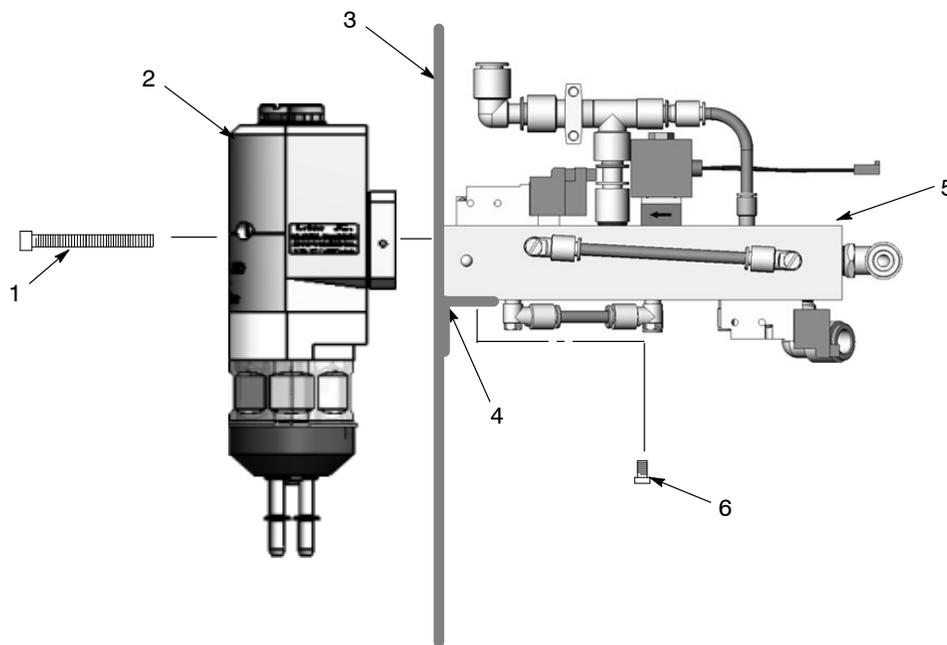

Figure 4-1 Pump and Manifold Installation
1. See Figure 4-1. Make sure that the gaskets on the pump (2) and manifold (5) are not damaged. If the gaskets are damaged, replace them.
2. Set the manifold onto the appropriate mounting bracket (4) against the pump panel wall (3). Secure the manifold with the manifold mounting screws (6), but do not tighten the screws.
3. Secure the pump to the pump panel and manifold using the pump mounting screws (1). Tighten the pump mounting screws securely.